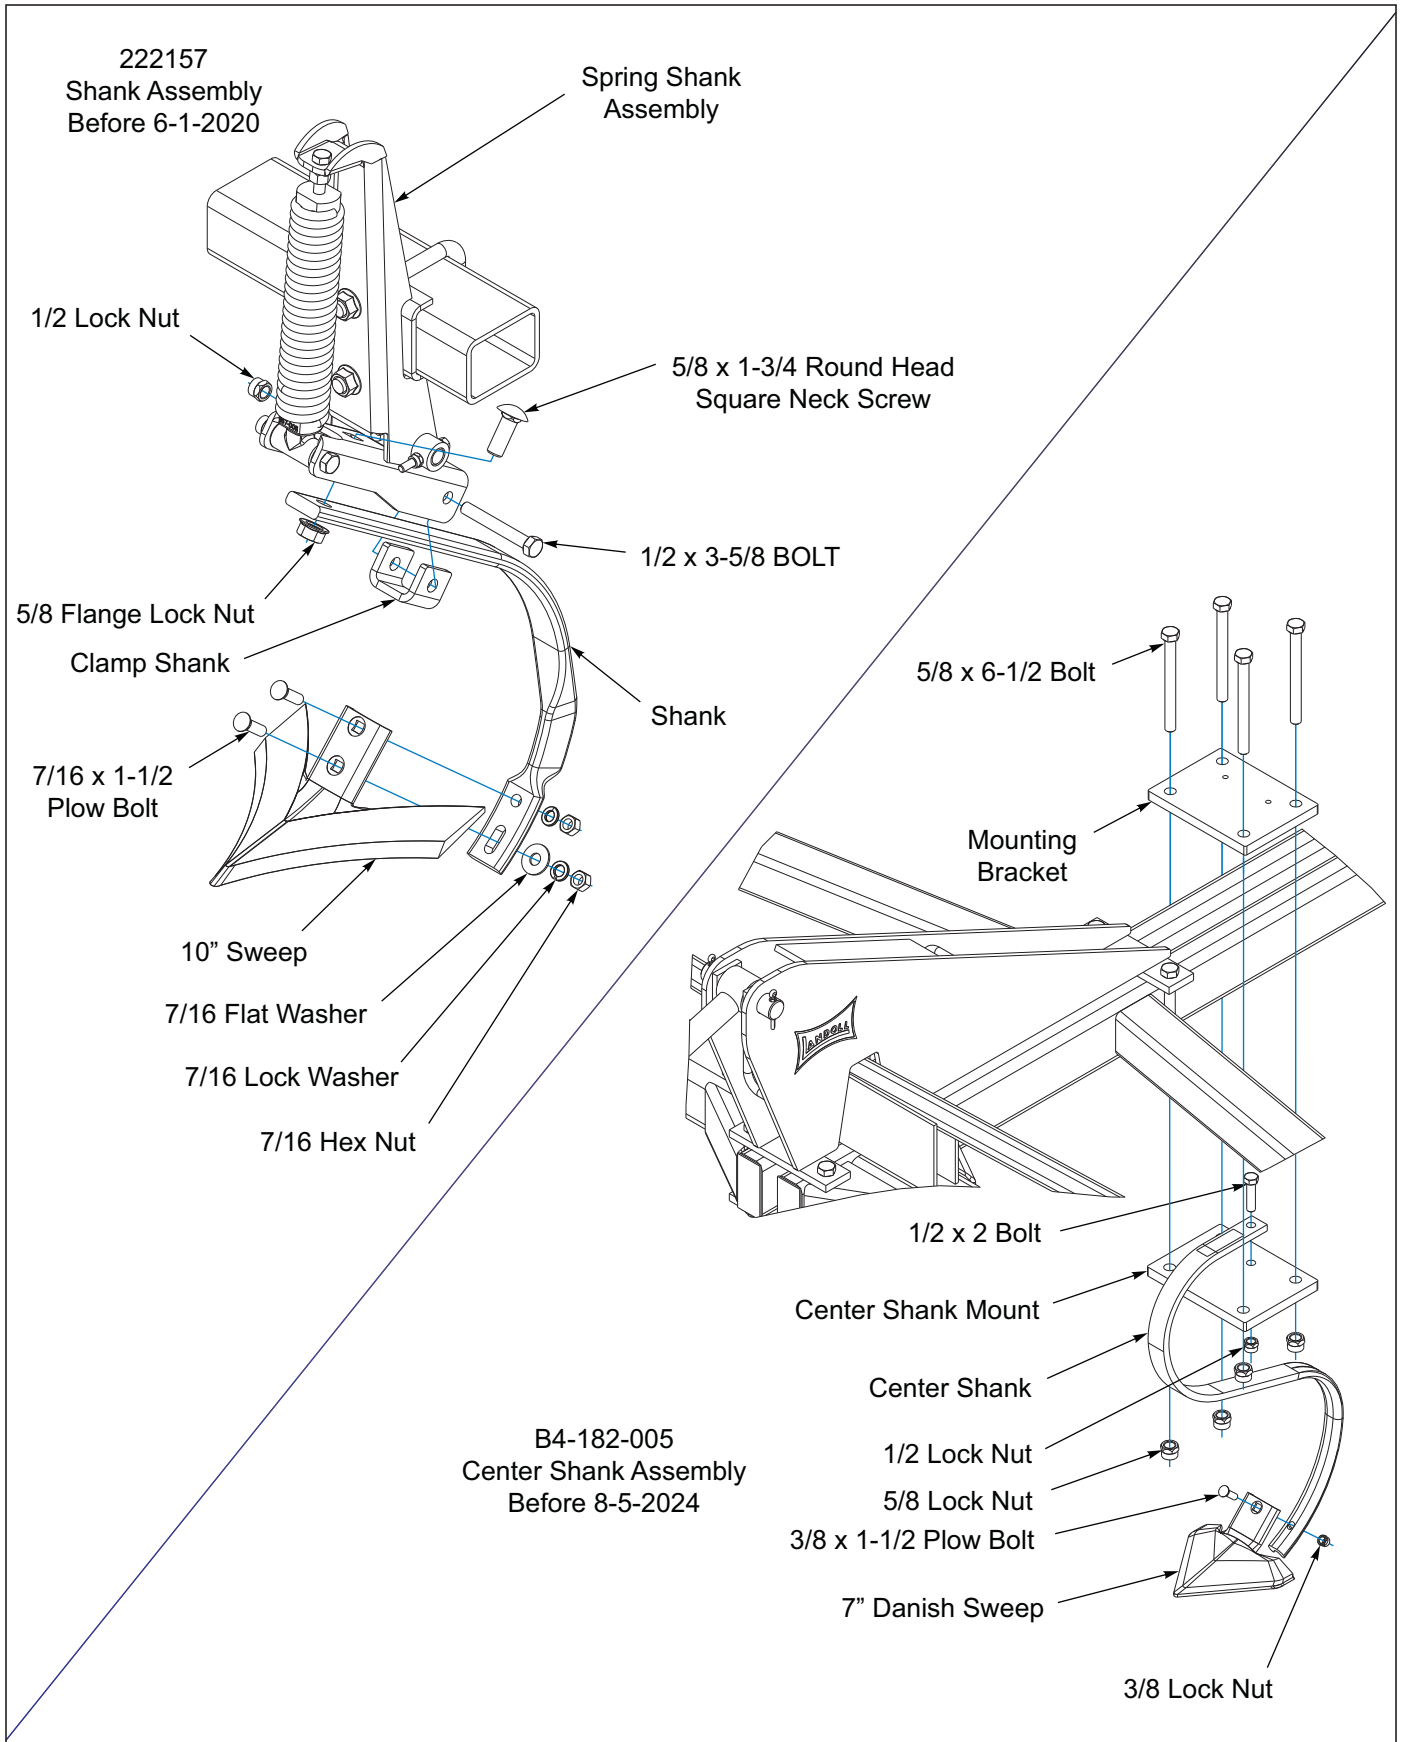

Figure 3-10: Spring Shank, Center Shank & Sweep Assembly (1 of 2)
1. Install shanks in spring shank assembly, **Before 6-1-2020** *See Figure 3-10*. Slide shank into spring clamp assembly, slide clamp shank on bottom side of shank, secure with 5/8 x 1-3/4 round head square neck bolt and 5/8 flange lock nut.
3. Attach center shank, **Before 8-5-2024** to center shank mounting plate using 1/2 x 2 bolt and 1/2 lock nut *See Figures 3-10*.